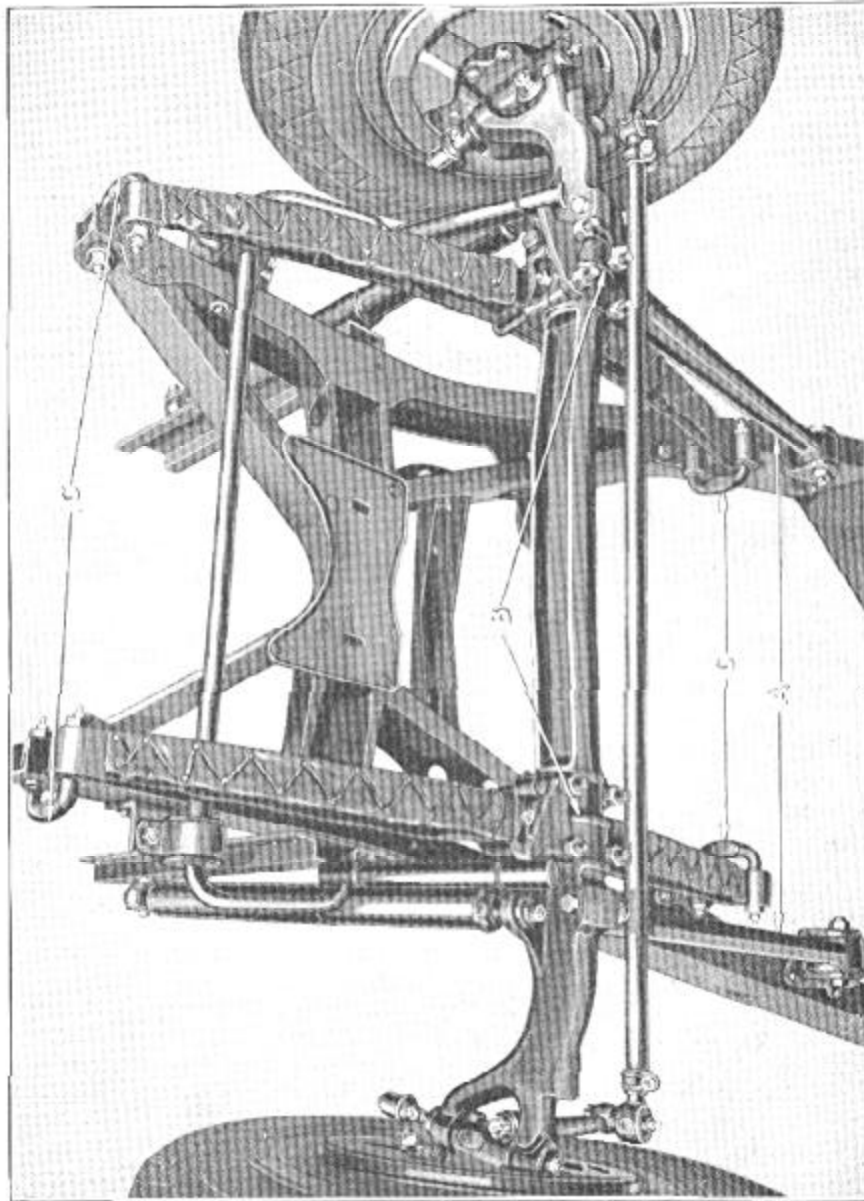

Figure 51
The front axle design used on the Hudson Terraplane car is of the Radial Safety Control type, whereby the axle is attached to the chassis frame by two large drop-forged steel torque arms (A), Figure 51, which insure accurate positioning of the axle and relieve the front springs of all loads other than that of supporting the weight of the car.